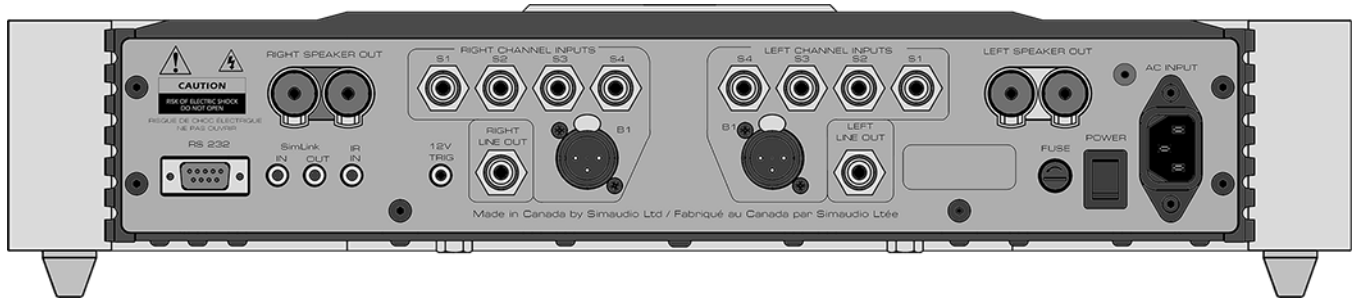

Figure 2: Rear panel of MOON 600i v2 Integrated Amplifier
The rear panel of the **MOON 600i v2** dual-mono integrated amplifier will look similar to Figure 2 (above). There are two rows of connectors; the upper row contains one pair of heavy duty gold-plated speaker binding posts for each channel to connect to your loudspeakers. In between these binding posts are four (4) pairs of single-ended RCA inputs labeled S1, S2, S3, and S4. This layout is the result of **600i v2**'s dual-mono design, the left channel inputs/outputs are grouped together on one side and the right channel inputs/outputs are grouped together on the opposite side.